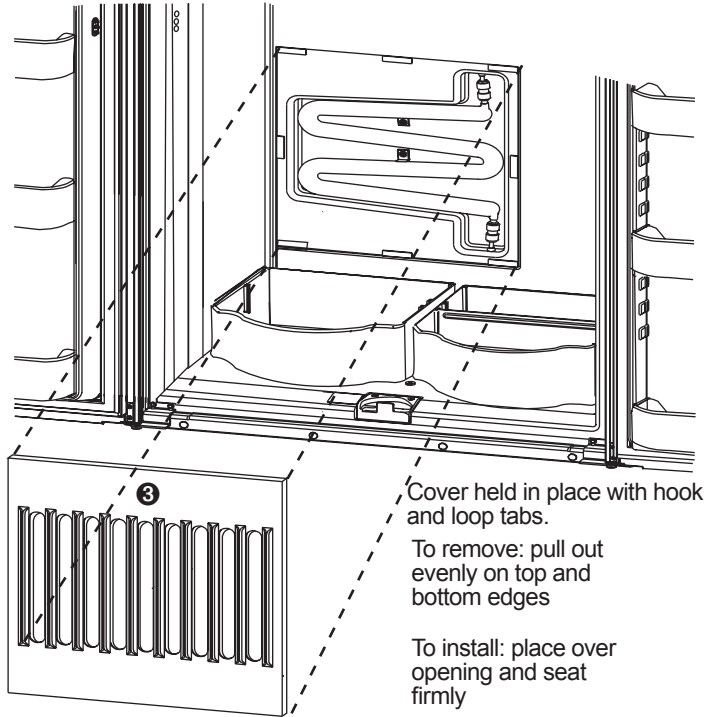

Figure 10-8. —Cover for reservoir recess.
5. Remove the reservoir compartment cover. See Figure 10-8, ③ .